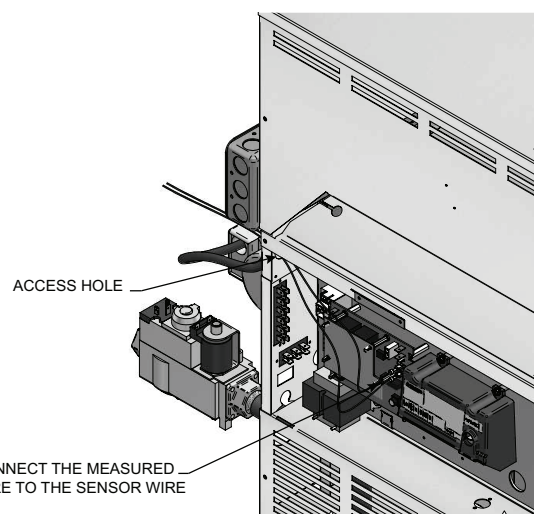

Figure 5-5_Installation of Remote Sensors
5. Connect the measured wire to the sensor wire using wire caps (see FIG. 5-5). Install .250 x .032 insulated female quick connect terminals to the end of the wires. Feed the wires through the access hole located on the back of the unit and secure the connectors to the thermostat connections (Sys/Tank) CN5 and CN6 located in the upper right-hand of the thermostat.